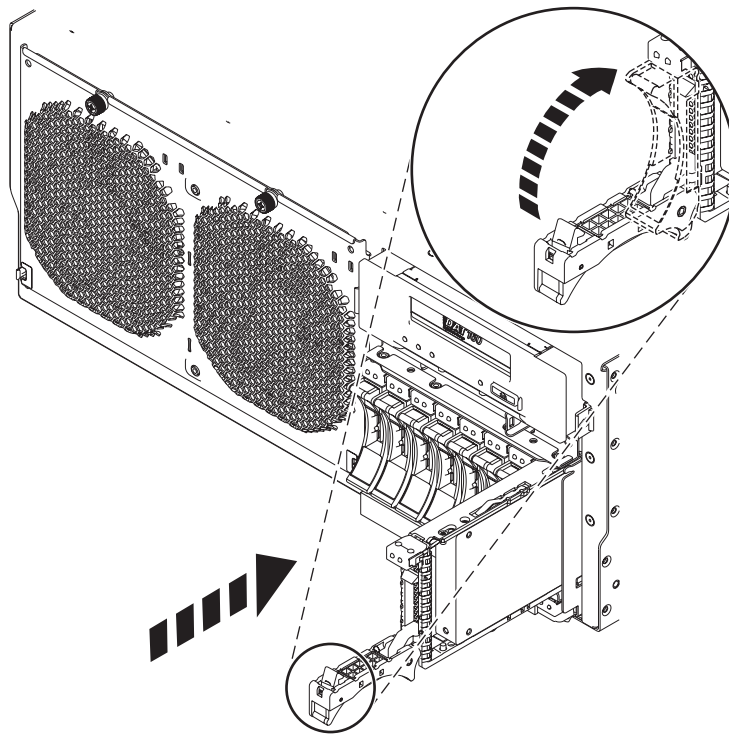

Figure 6. Installing the disk drive in the system
7. When the identify LED flashes, slide the drive all the way into the system or an expansion unit, and push the drive handle (A) in until it locks, as shown in Figure 6.